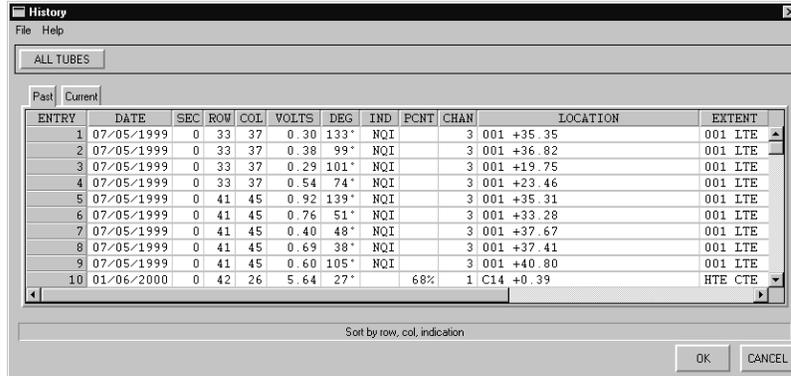

Figure 3-80. History Dialog with Past History Loaded
- HISTORY > File > Load Past ...:** Selecting **Load Past ...** from the **File** menu on the **History** dialog shown in Figure 3-79 displays an **Open** dialog. Select the drive, directory, and *past* history (.hst) file for the format selected in the **Options** dialog (see **OPTIONS > History**). Figure 3-80 shows the **History** dialog after loading a CoreStar-format *past* history file.
Finally, the **History** dialog provides a sorting feature. As various columns headers are clicked, the currently displayed history list is sorted. The sorting criteria is reported in the **Status Bar** at the bottom of the dialog. See the **Status Bar** in Figure 3-80 for an example.